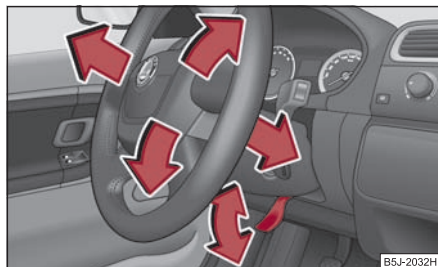

Fig. 122 Adjustable steering wheel: Lever below steering column
- Pull the lever below the steering column ⇒ fig. 122 down ⇒ ⚠.